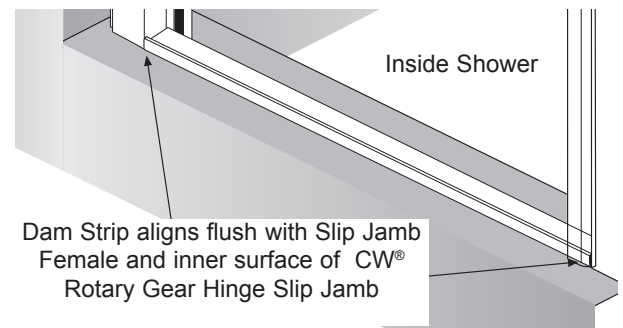

Figure 6
- B. From outside the shower enclosure, with the raised edge of the Dam Strip (#6) up and facing *out*, align one end of the Dam Strip (#6) with the Slip Jamb Female (#3) and the other end align with the inner edge of the CW® Rotary Gear Hinge Assembly (#1). (See Figure 6).